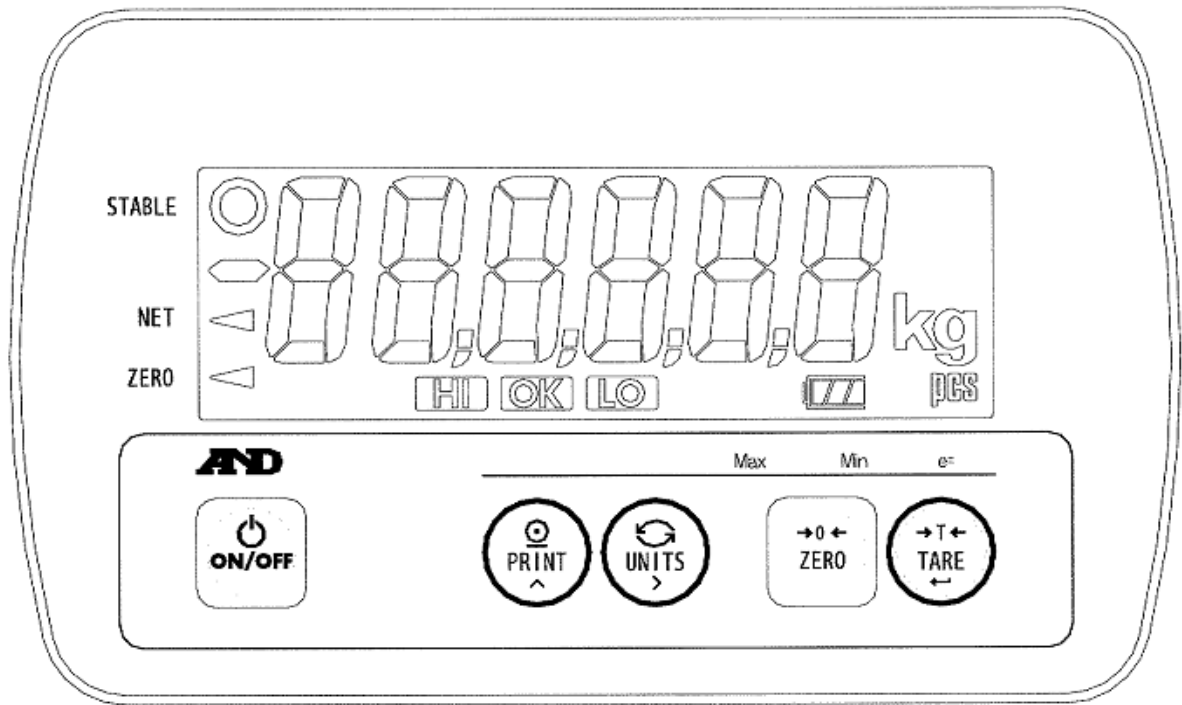

Figure 3 Display & legends
The keyboard consists of five functional keys (see Figure 3):
6.1.1 The instrument bears the following legends (see Figure 3):
- Figure 3 Display & legends